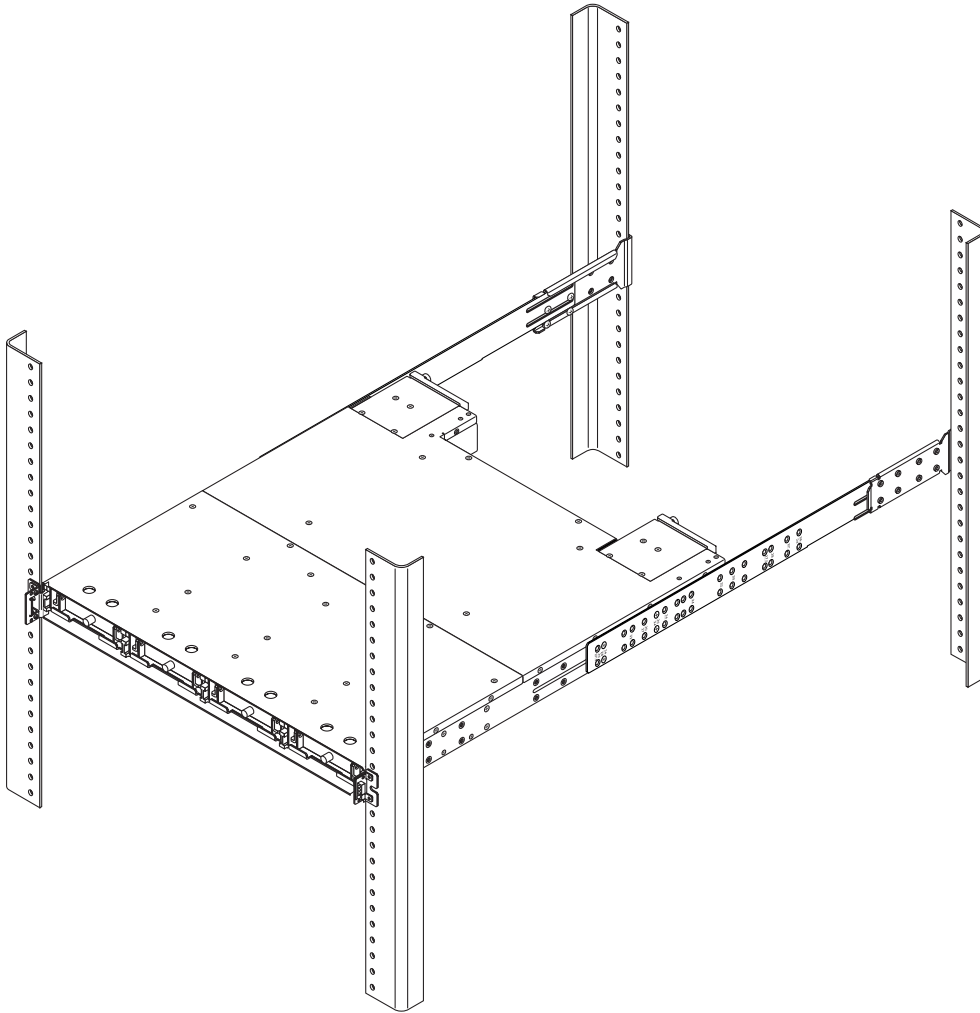

FIGURE 2-1 Rackmounted Cabinet Array Using Rear Brackets With Chassis Ears and Bezels Removed, After Installation
- You can mount a cabinet using rear and side brackets for depth ranges between 24 to 36 inches (60.96 to 91.44 cm). FIGURE 2-1 displays a completed installation of a Sun StorEdge 3000 Family 1U array in a standard EIA cabinet using rear and side brackets.
Refer to the parts list in TABLE 2-1 and the illustration in FIGURE 2-1 during installation. The table lists the major components and fasteners required to install an array into the cabinet.